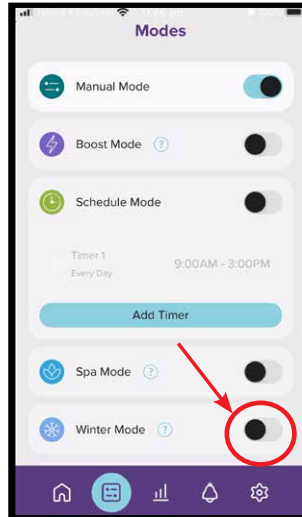

Figure 9.55
- In the “modes” menu, **WINTER MODE** can be toggled on, or off by simply sliding the switch (ref Figure 9.55).